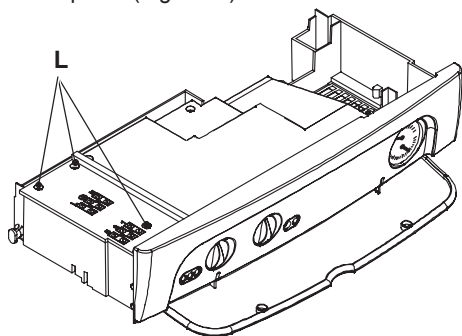

Fig. 6.16
- Loosen the screws L and remove the service panel (Fig. 6.16).